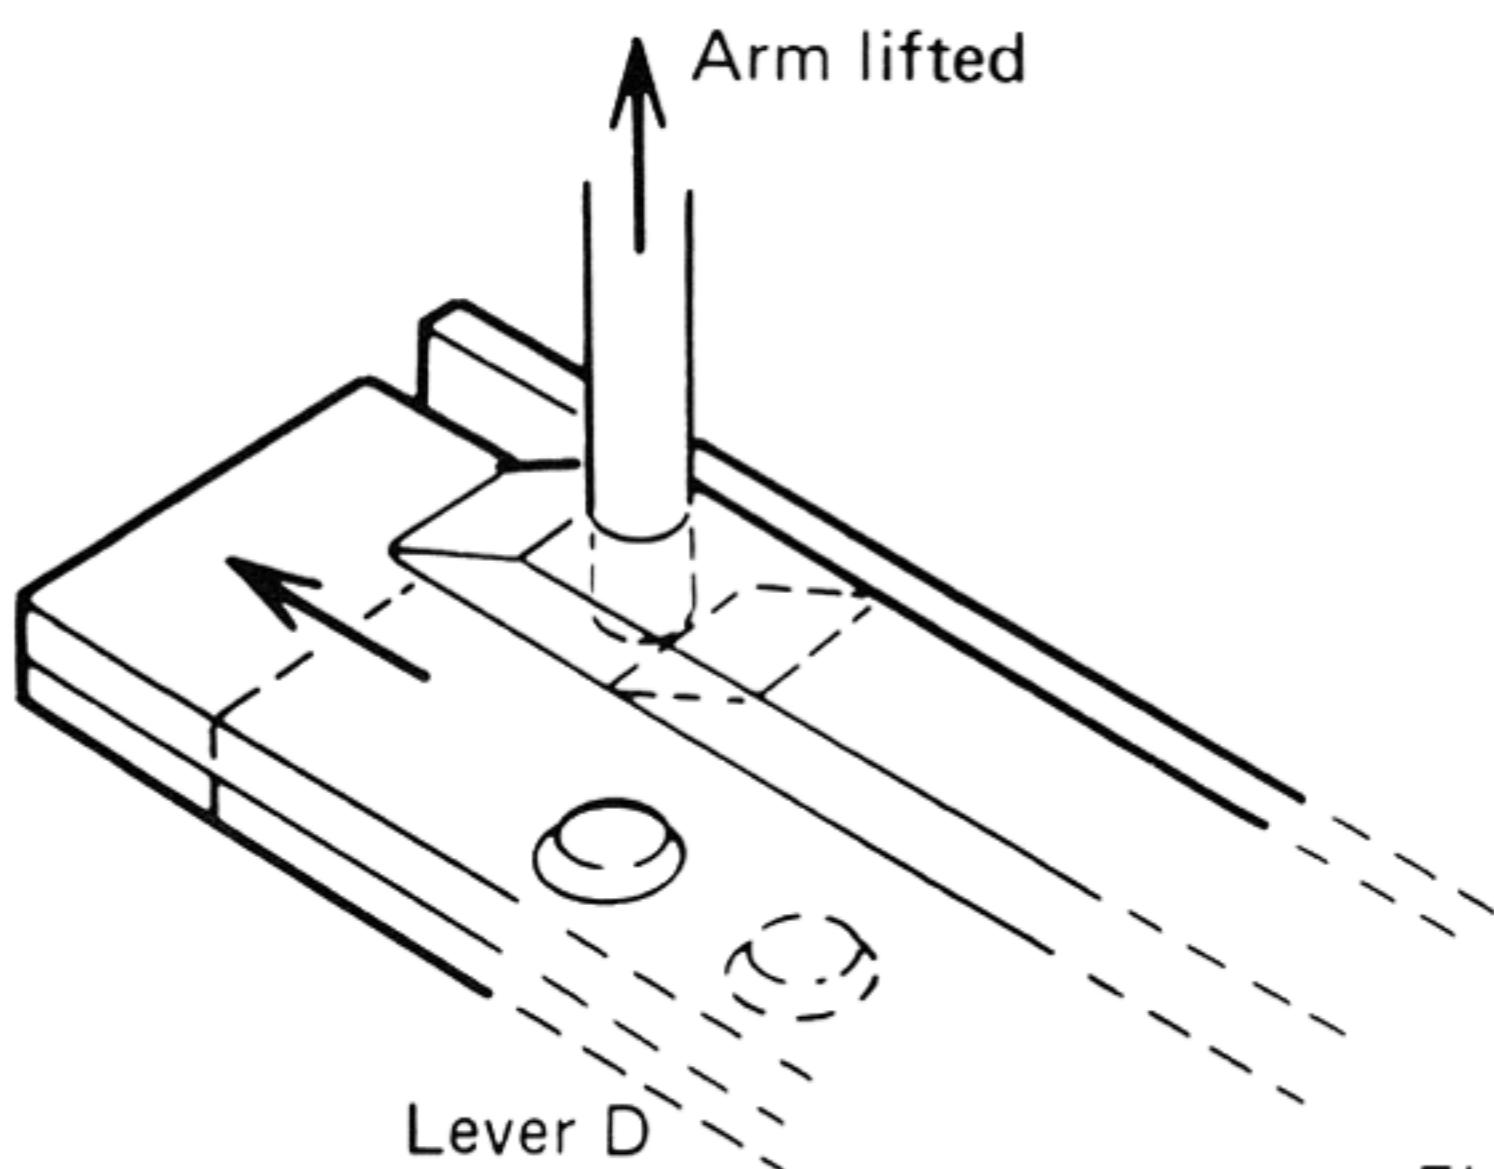

Fig. 5
2. Lever D moves along the groove of gear B, and the tone arm is lifted (Fig. 5).